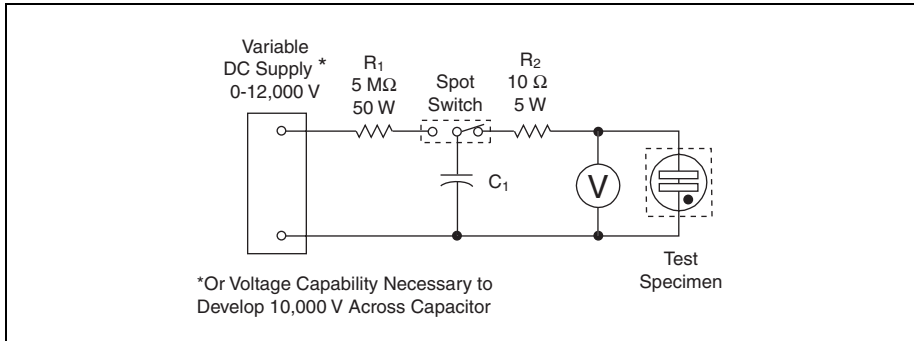

Figure 4.9 UL 497 Discharge Test
- **Discharge Test** — Protectors must comply with the strike voltage requirements after being subjected to five successive discharges from a 2  $\mu$ F capacitor charged to 1000 V dc. (Figure 4.9).
- **Repeated Discharge Test** — The arrestor must continue to break down at or below its maximum rated breakdown voltage after being subjected to 500 discharges from a 0.001  $\mu$ F capacitor charged to a potential of 10,000 V dc. The interval between pulses is five seconds. Arrestors are to be tested in each polarity, and it is acceptable for the protector to short circuit following the discharge testing. (Figure 4.9)